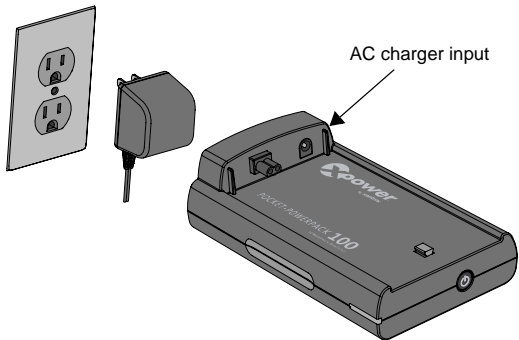

Figure 6 Charging the Powerpack with AC Power
3. Plug the other end of the AC Charger into a standard AC wall outlet. See Figure 6.